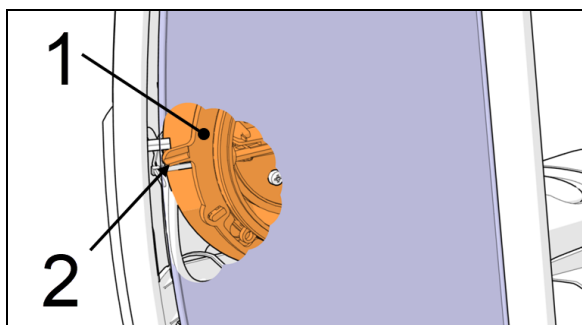

FIGURE 103: (1) LOCK RING; (2) TAB
- Underneath the mirror, reach for the tab of the locking ring (item 2, Figure 103).